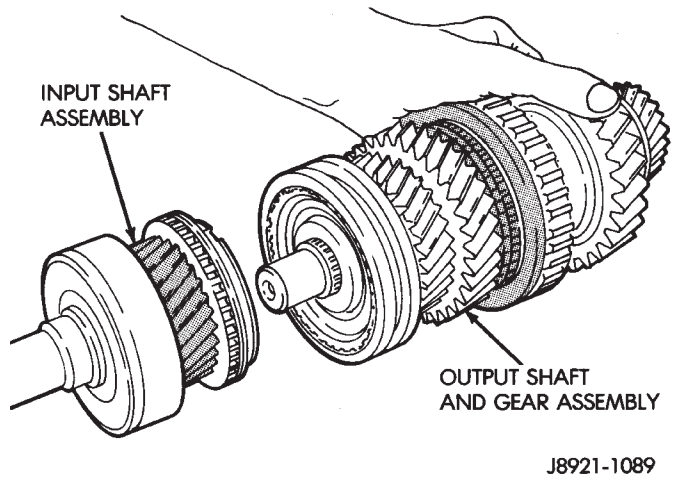

Fig. 59 Input Shaft Removal
- (7) Remove input shaft from output shaft (Fig. 59).